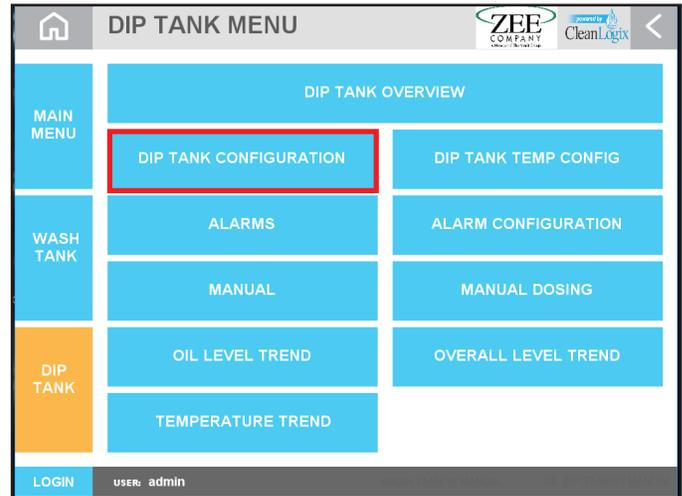

Figure 7.1: Dip Tank Menu
2. Click the Home icon and navigate to **DIP TANK > DIP TANK CONFIGURATION** [Figure 7.1].